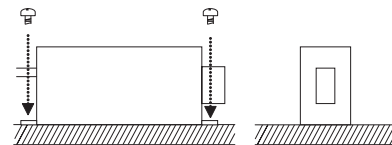

Fig.3.9 Installation Method
*Derating curve changes in the case of attachment of Fig.3.9.